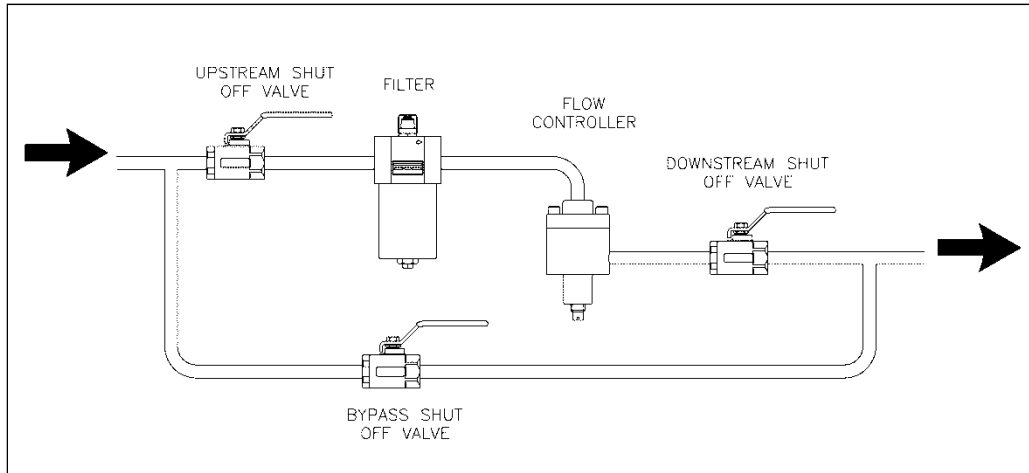

Figure 1
2. Upstream and downstream shutoff valves and a bypass valve should be installed so that the controller may be opened for inspection and cleaning without requiring complete system shutdown.(See figure 1)
1. It is necessary to remove the controller from the line to clean. If installation includes proper shutoff and bypass valves, operate these and take the controller off stream or control. (See figure 1)